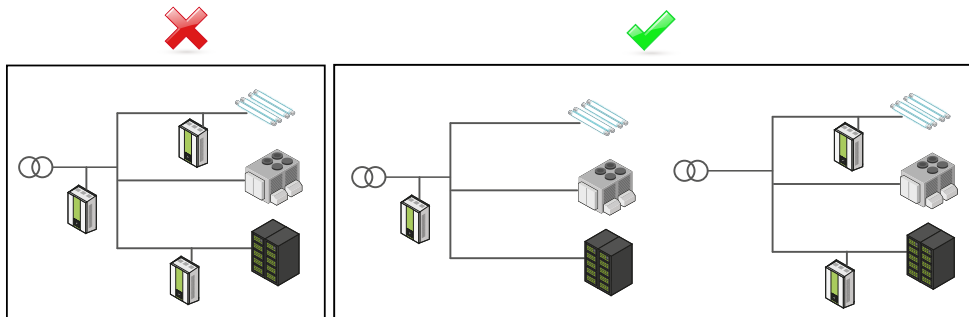

Figure 4: Correct vs. incorrect installation.
- ✓ Do not install active filters in an installation with capacitor banks without detuned reactors. In case of having reactors, the best connection place to avoid possible resonances is shown in Figure 4.